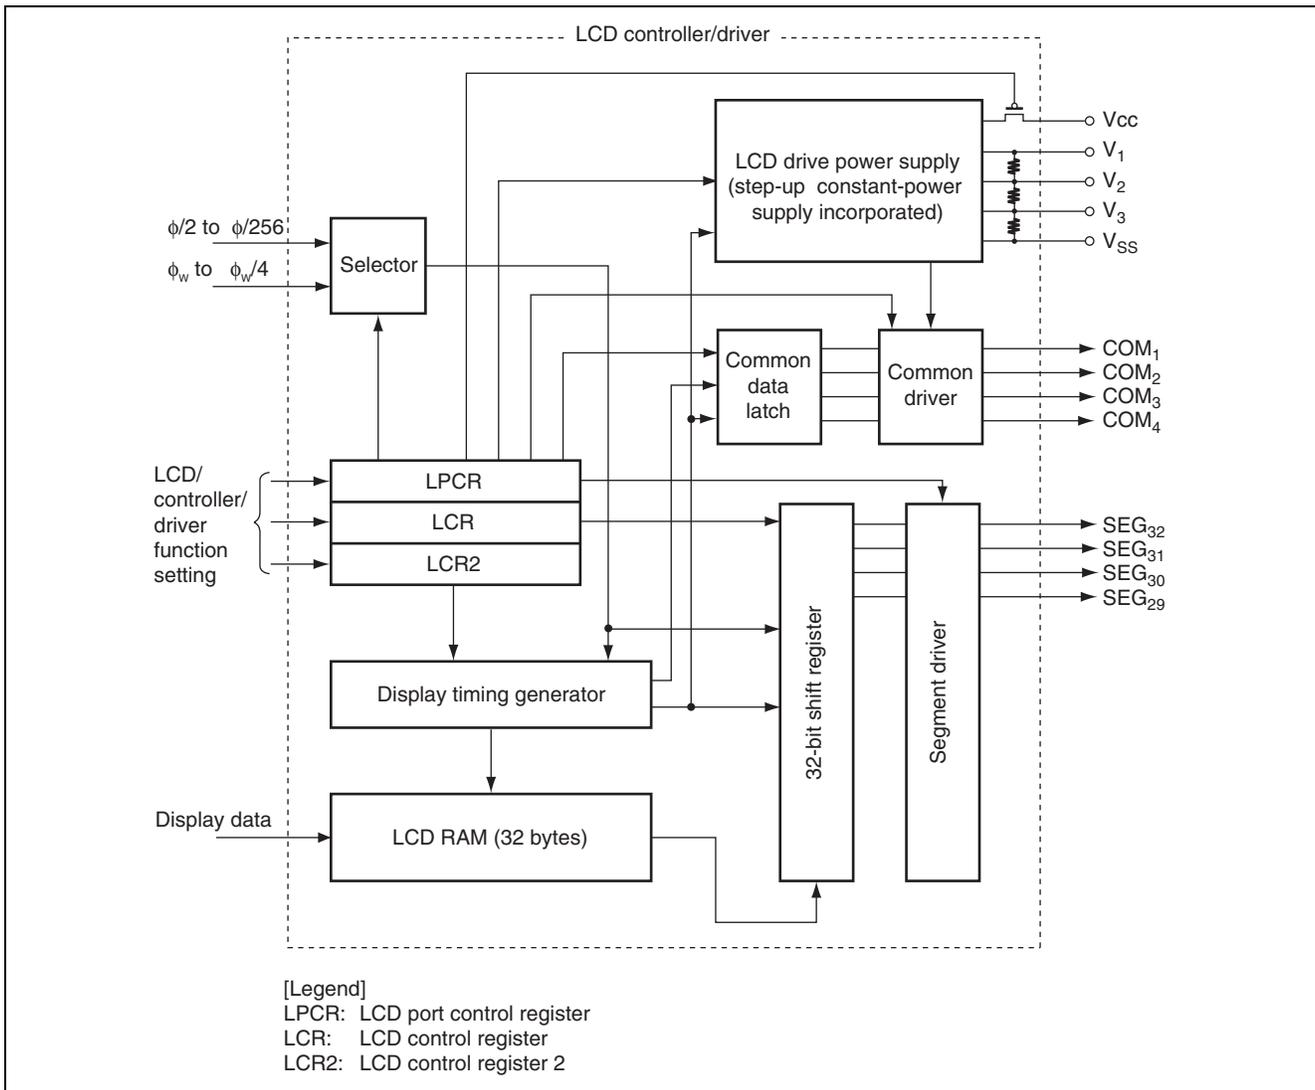

Figure 2.1 Block Diagram of LCD Controller/Driver in Segment External Extension
2. Figure 2.1 shows the block diagram of the LCD controller/driver during segment external extension used in this sample task.